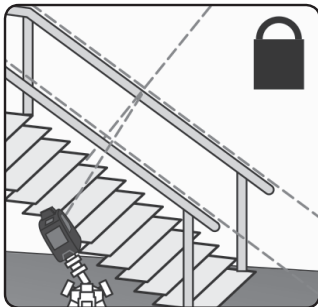

Fig.4
- The device can also be used with the self-levelling mechanism of the device locked at a tilt angle outside the automatic self-levelling range, e.g. for determining a second parallel line (fig. 4).